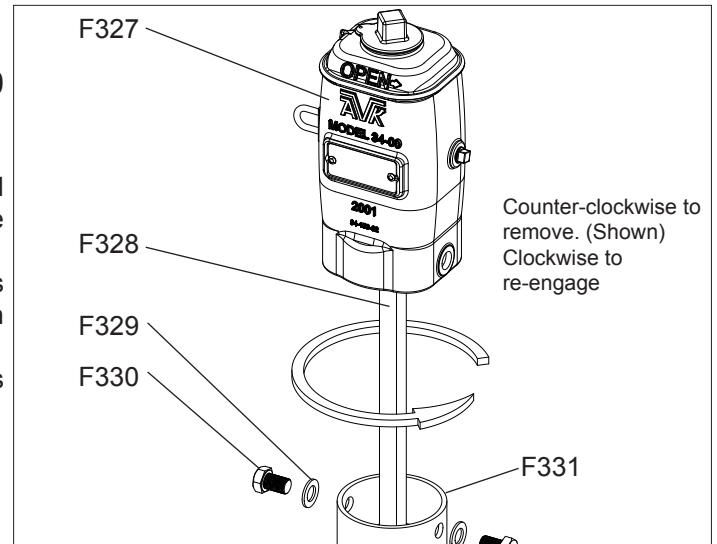

Fig. 2A
1. With a 1 1/4", (30mm) wrench, remove the two Post Head Attachment Bolts (F329) and associated washers (F330) attaching the Indicator Head (F327), to the Upper Barrel (F331). (See Fig. 2A).
3. Turn the Upper Stem Rod (F328) counter-clock-wise to unscrew the target assembly and remove it from the indicator head. (See Fig. 2A).